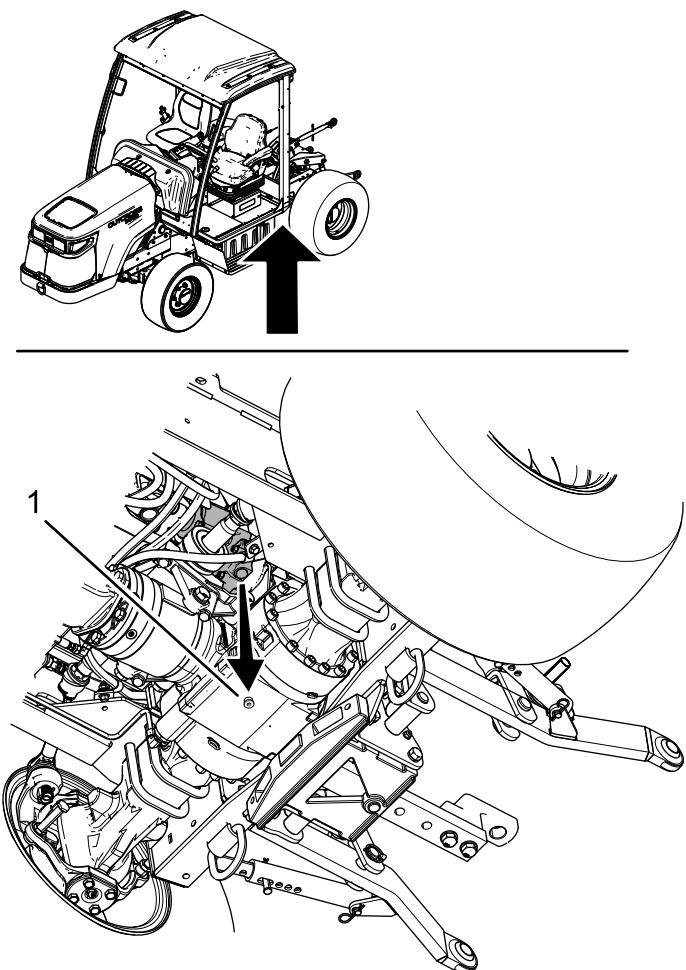

Figure 109
3. Remove the plug from the drain port (Figure 109).